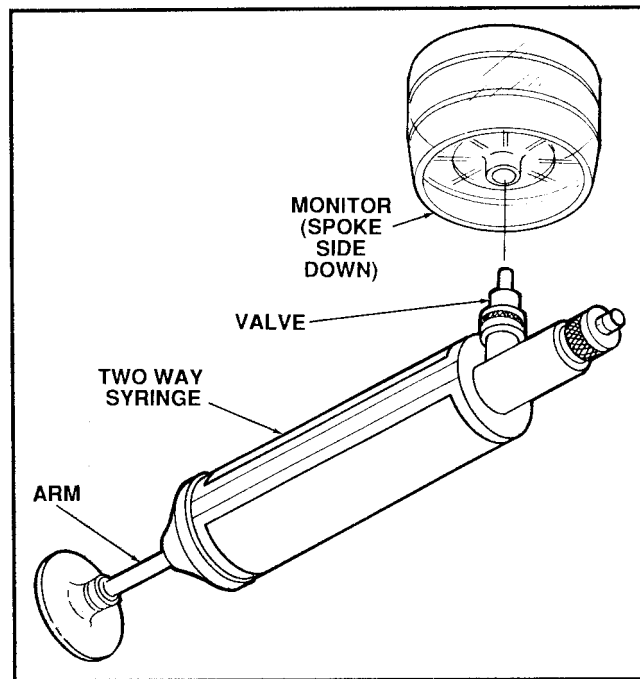

Figure 2.15 Fitting the Monitor into the Two-Way Syringe Valve
- a. Securely fit the bottom or *spoke-side* of the monitor onto the syringe valve (Figure 2.15) and pump the syringe arm point the syringe away from you and pump the arm, holding the extended arm for 5 seconds before releasing each time. Pump the arm two or three times, or until the filter inside the monitor appears dry of fuel.